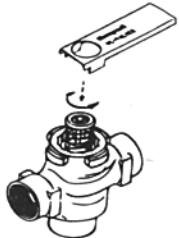

Fig. 5. Installing Cartridge
2. After soldering and valve has cooled, remove cartridge assembly from plastic bag, insert into the valve body and tighten down with enclosed wrench until it bottoms out. DO NOT OVER TIGHTEN (maximum torque is 40 in-lb). See Figure 5.
3. Remove valve actuator by pressing up on the latch mechanism located directly below the red manual open lever with thumb (See Figure 5). Simultaneously press the actuator down towards the valve body with moderate hand force and turn the actuator counter-clockwise by 1/8 turn (45°). Lift actuator off the valve body.